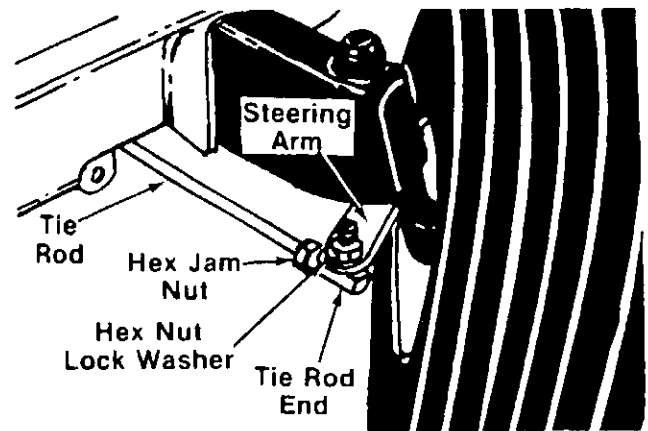

FIGURE 17.
- Remove the hex nut and lock washer, and drop the tie rod end from the wheel bracket. See figure 17.